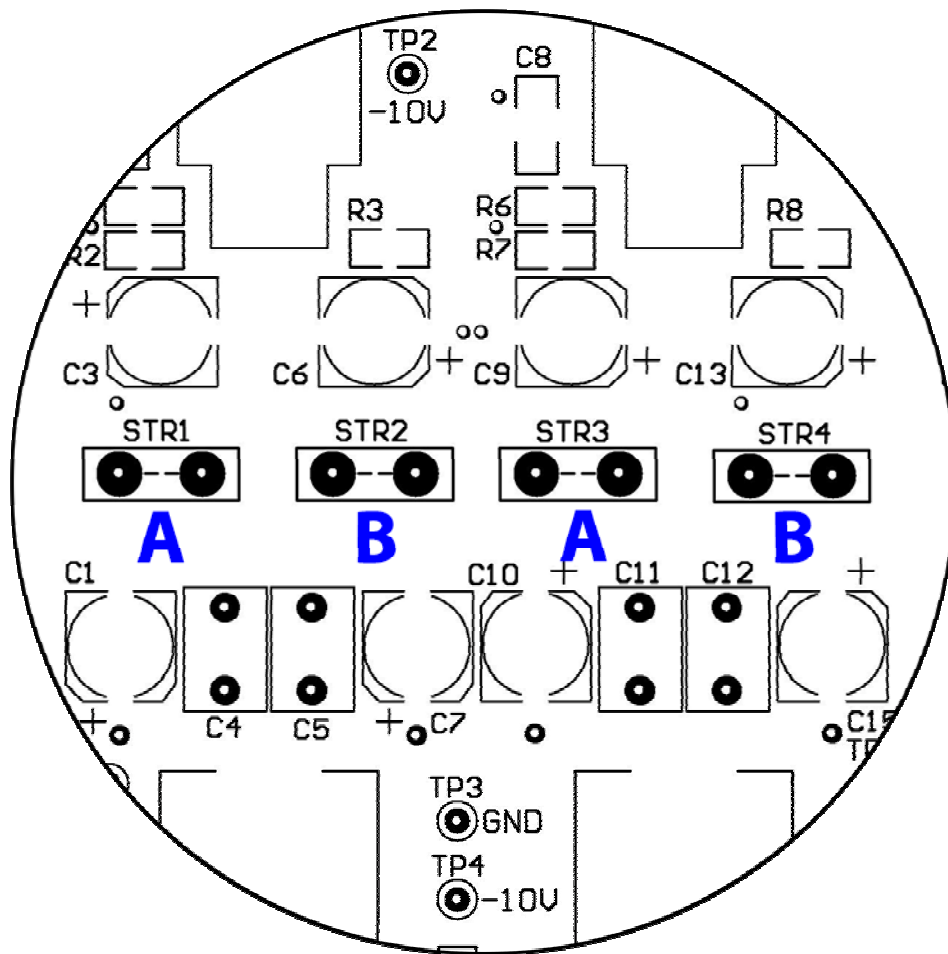

Figure 11: Nêo 310LP Circuit Board layout for external power supply
The **Nêo 310LP Phono Preamp** can be operated with the **MOON 320S Power Supply** (purchased separately). Referring to figure 11 below, you will see an array of four (4) jumper sockets labeled STR1, STR2, STR3 and STR4. The factory default position for the 2 jumpers is in sockets STR2 and STR4 (positions **B** in figure 11). To
properly use the **Nêo 310LP** in conjunction with the **MOON 320S**, you will need to move these 2 jumpers into sockets STR1 and STR3 (positions **A** in figure 11). For further details, please refer to your **MOON 320S** owner's manual. **Failure to make these adjustments may cause damage that is not covered by warranty.**
sockets STR2 and STR4 (positions B in figure 11). You should NOT move these jumpers from their factory default position.